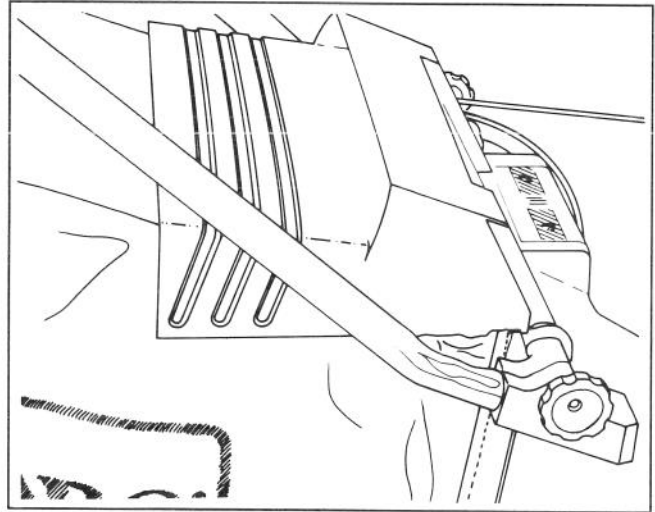

Figure 5
2. Allow discharge door to rest on top of bag (Fig. 5).